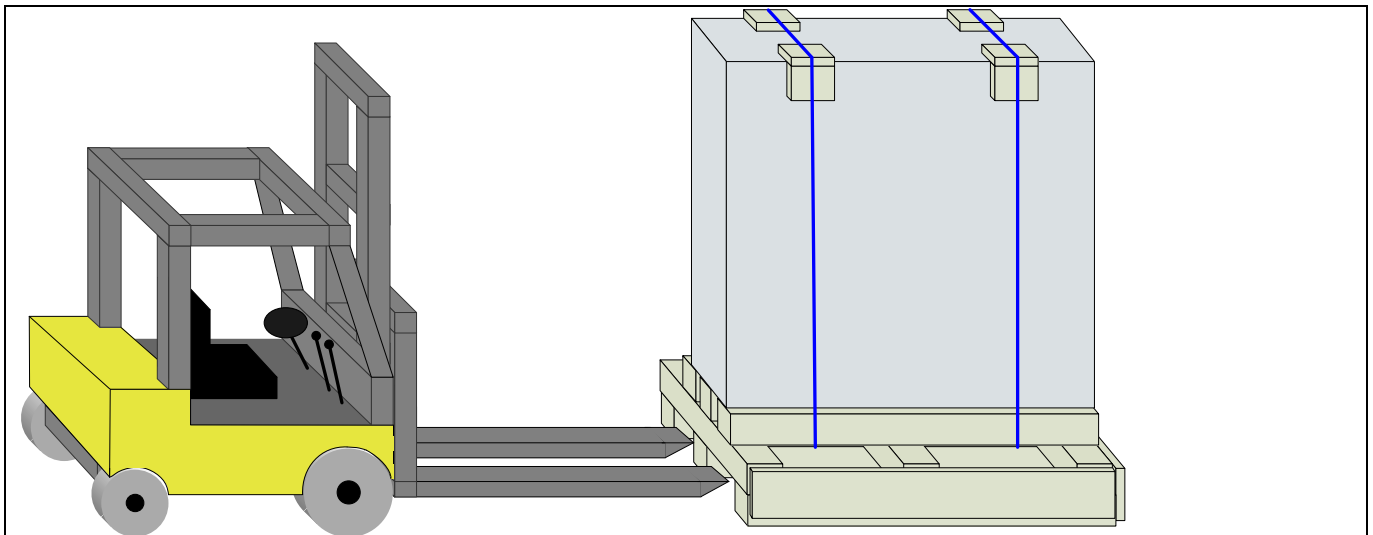

Figure 4-10 Transport methods – transport by fork-lift truck
Forks can be inserted under the pallet on only two sides. Barriers are fitted on the other two sides. These must never be removed. There is a risk the unit will tip if forks are inserted under it on the wrong side (see Figure 4-10).
- Transport with an H beam (see Figure 4-10)